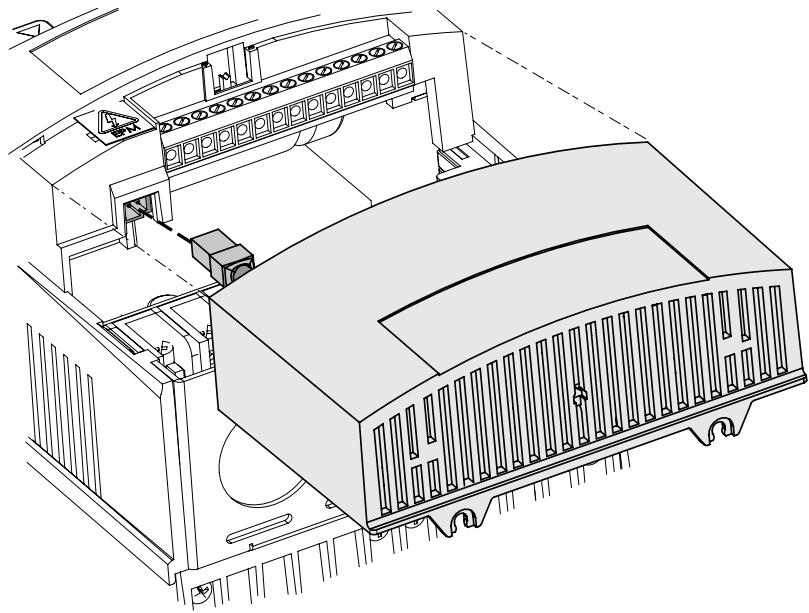

Figure 3: Re-Installing the Terminal Cover
4. Align terminal cover for re-fitting, connect the module umbilical cord to the drive then close the cover and secure, as shown in Figure 3.